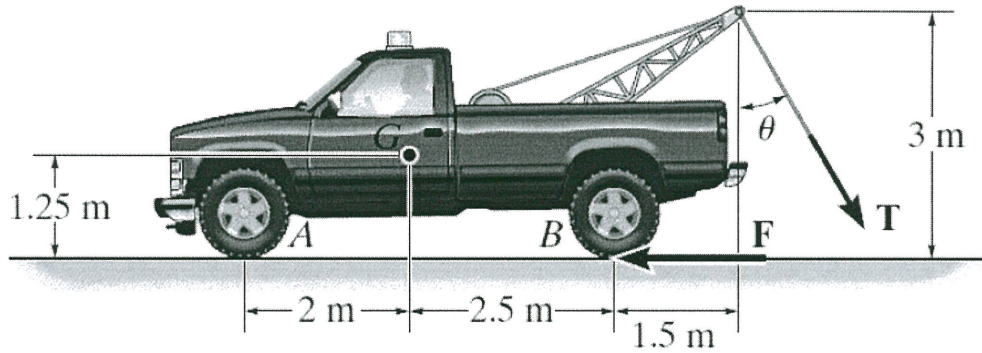

FIGURE Q3
- The winch cable on a tow truck is subjected to a force of $T = 5kN$ when the cable is directed at $\theta = 60^\circ$ as shown in **Figure Q3**. The truck has a total mass $4Mg$ and mass center at G .